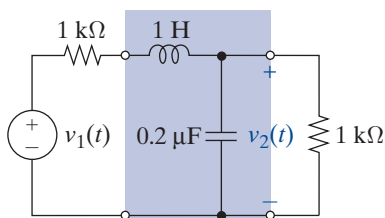

FIGURE P11-20
- 11-20 Find $h(t)$ and $g(t)$ for the circuit in Figure P11-20.